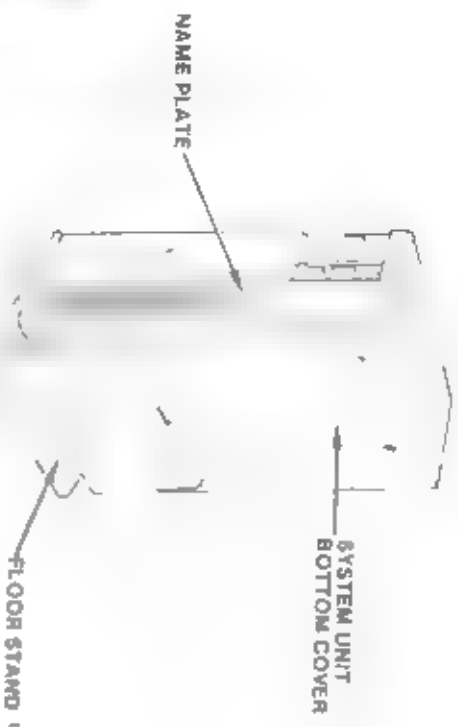

Figure 3-11 System Unit Mounted in Floor Stand
The system unit can be used as shown in Figure 1-1, with the display monitor placed on the system unit. To save desk space, the system unit can also be placed on end (vertically) and mounted in an optional floor stand as shown in Figure 3-11. The floor stand makes the system unit more stable.
8. Next to the indicator lights on the system unit is the PC name plate (see Figure 3-11). Push in on the bottom edge of the name plate and slide it down slightly. The top edge of the name plate should pop out. Remove the name plate and turn it 90 degrees clockwise so the name's right side is up. Place the bottom edge of the name plate into the slot at the bottom of the name plate opening. Push it and up. The name plate should slide and lock into place.